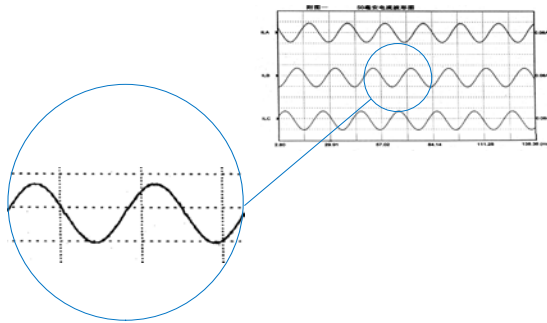

Figure 2-5 0.05A Output wave of L serial tester
- ◆ Small-electricity wave is accurate, no electromagnetic pollution and no disruption with present device showing as Figure 2-5.